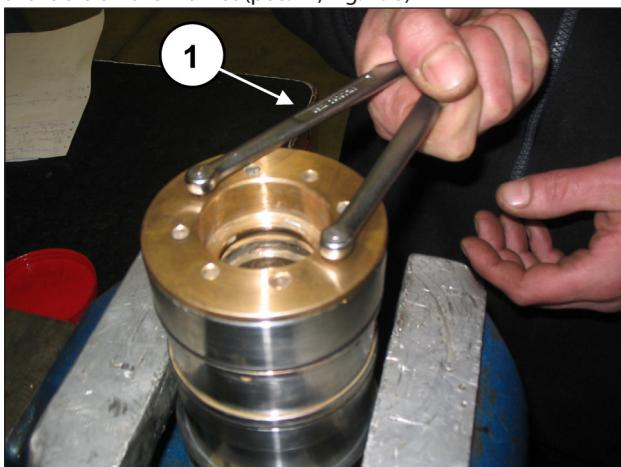

Fig. 190
available on the market (pos. ①, Fig. 190)